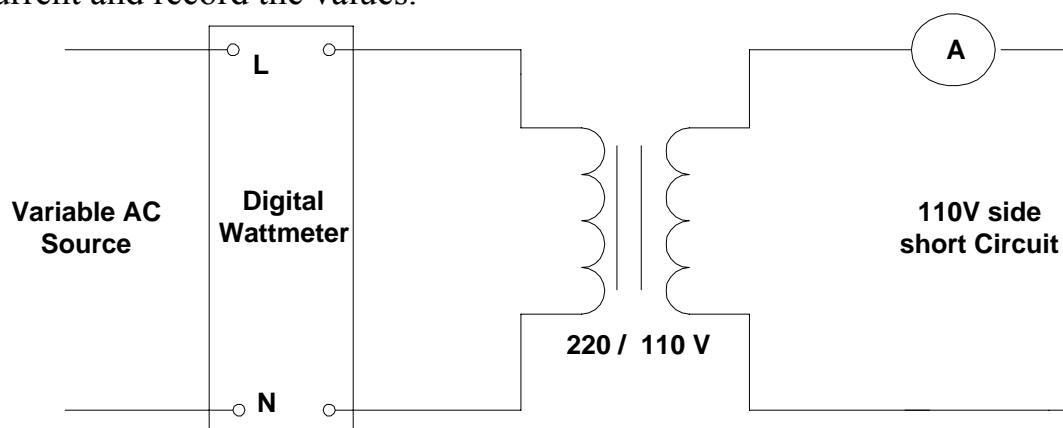

Fig. 3 : The Short Circuit Test connection
5. Next, connect the transformer for the short circuit test as given in Fig 3. The variable supply will be on the high voltage side.